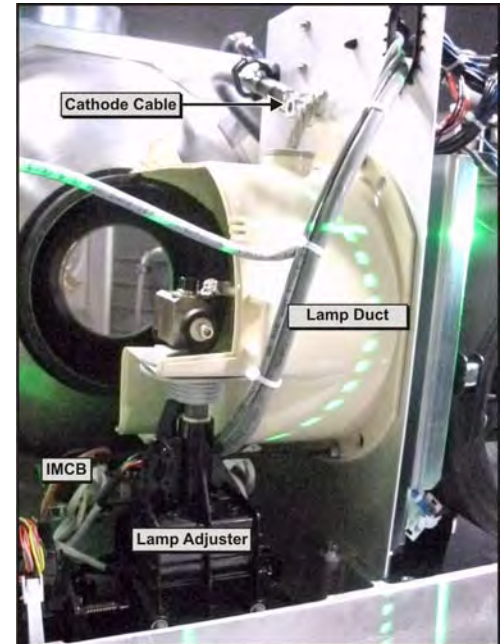

Figure 5-60 Lamp Adjuster
4. Using a 5mm hex key, remove the cathode cable. (**Figure 5-60**)